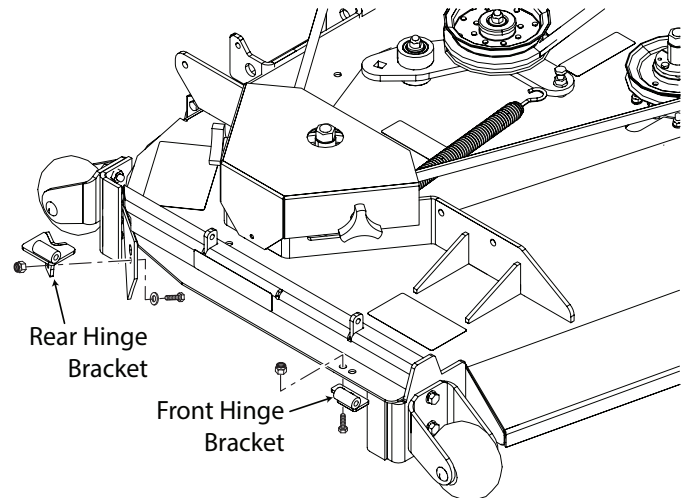

Figure 3-9. Hinge Weldment Installation
7. Install the rear hinge bracket to the cutter deck using one (1) 5/16-18 x 1" bolt, one (1) 5/16" flatwasher and one (1) 5/16-18 elastic stop nut. Do not tighten the hardware. See Figure 3-9.
16. Install the front hinge bracket to the cutter deck using two (2) 5/16-18 x 3/4" bolts and two (2) 5/16-18 elastic stop nuts. See Figure 3-9, page 10. Do not tighten the hardware.